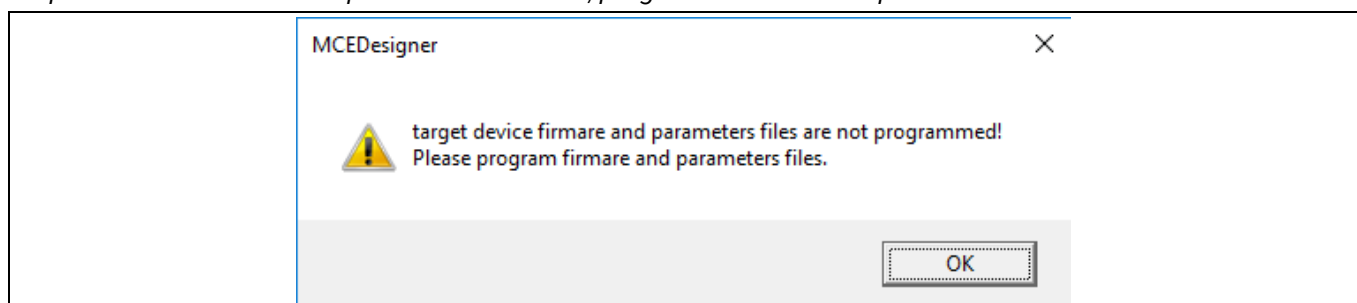

Figure 7 MCEDesigner warning message
8. *In case of blank IC: If the firmware has been erased from the IMC101T, a warning message will pop up saying "Target device firmware and parameters files are not programmed! (Figure 7) Please program firmware and parameters file." See step 9 on how to obtain/program firmware and parameters.*